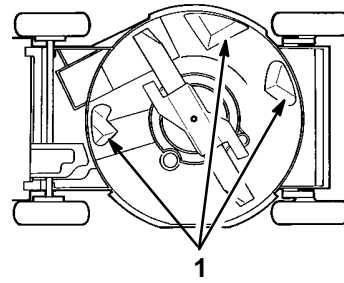

Figure 28
To ensure best performance, keep the underside of the mower housing clean. Be especially careful to keep the kickers free of debris (Fig. 28).
- Tip the mower on its left side (Fig. 28).